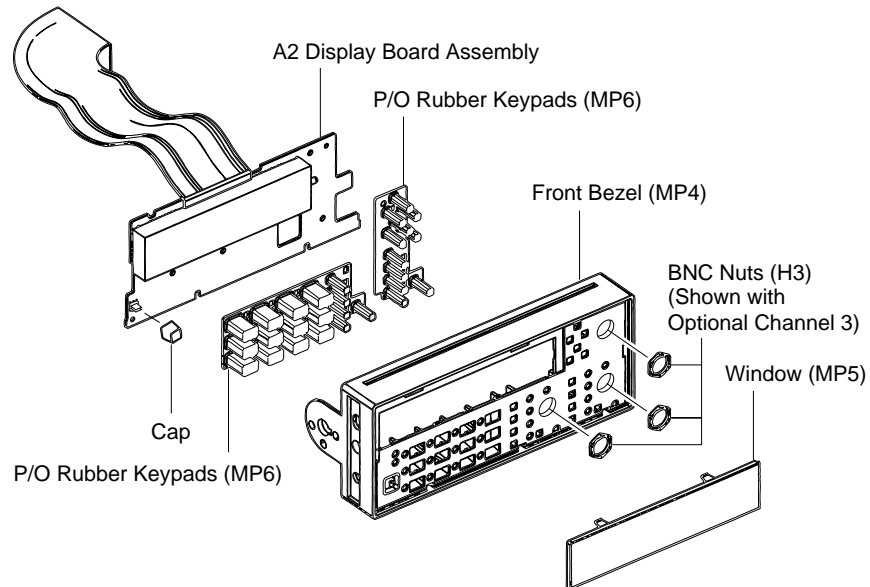

Figure 3-7. A2 Display Board, Keypad, and Window Removal
3 Note that A2 Display Board Assembly, shown in Figure 3-7, is held in place by five tabs (two on top and three on bottom) which are part of the front bezel.
- 8 **As shown in Figure 3-7, the rubber keypads (MP6) are now free. Just pull them out of the bezel.**
- 9 **Remove the window (MP5), shown in Figure 3-7, by pressing down on the two top tabs and sliding the window forward.**